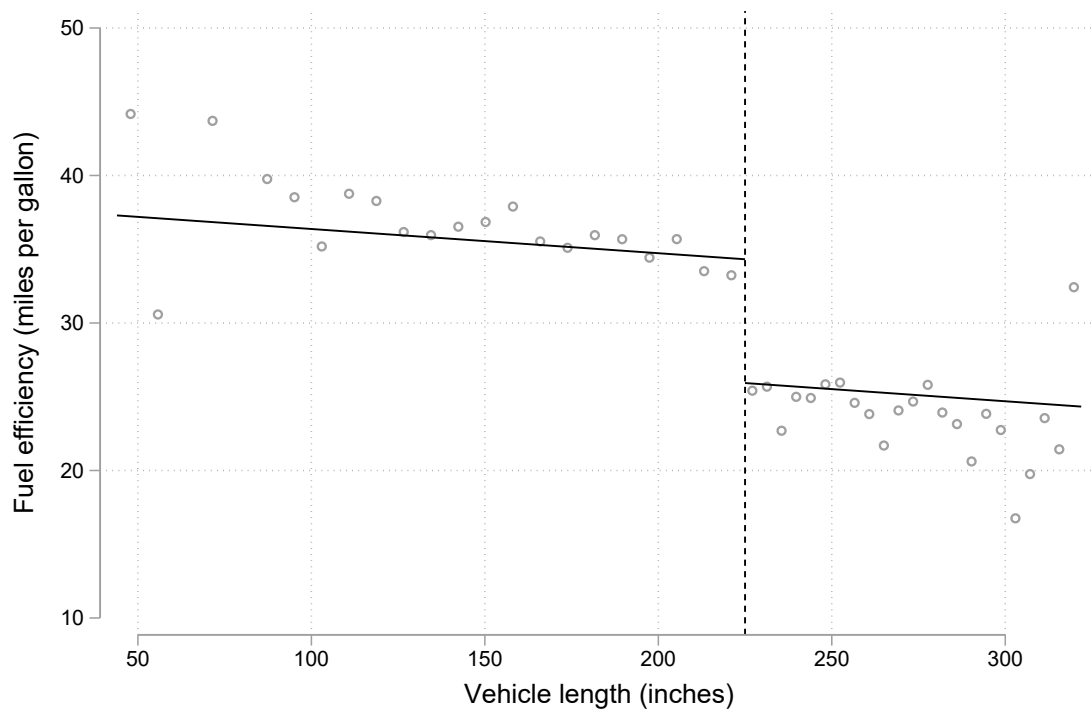

Figure 5: RD with the first order polynomial using 'rdrobust' command.
1. The average treatment effect from the second-stage regression results is presented in Tabel 3 and the scatter plot with fitted lines in Figure 5. ATE coefficients are very similar in section 6 and in the Stata output and both are statistically significant.